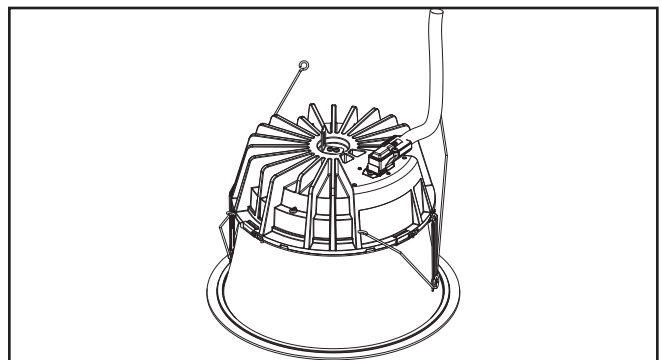

Figure 6.
3. Properly align the connector as shown in (Figure 6). Plug in the luminaire quick disconnection to the module.